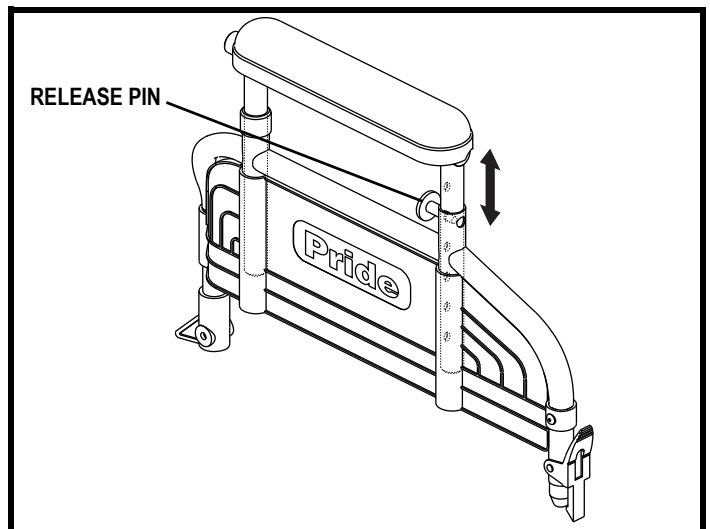

Figure 22. Armrest Height Adjustment
1. Pull back and hold the release pin located on the armrest. See figure 22.